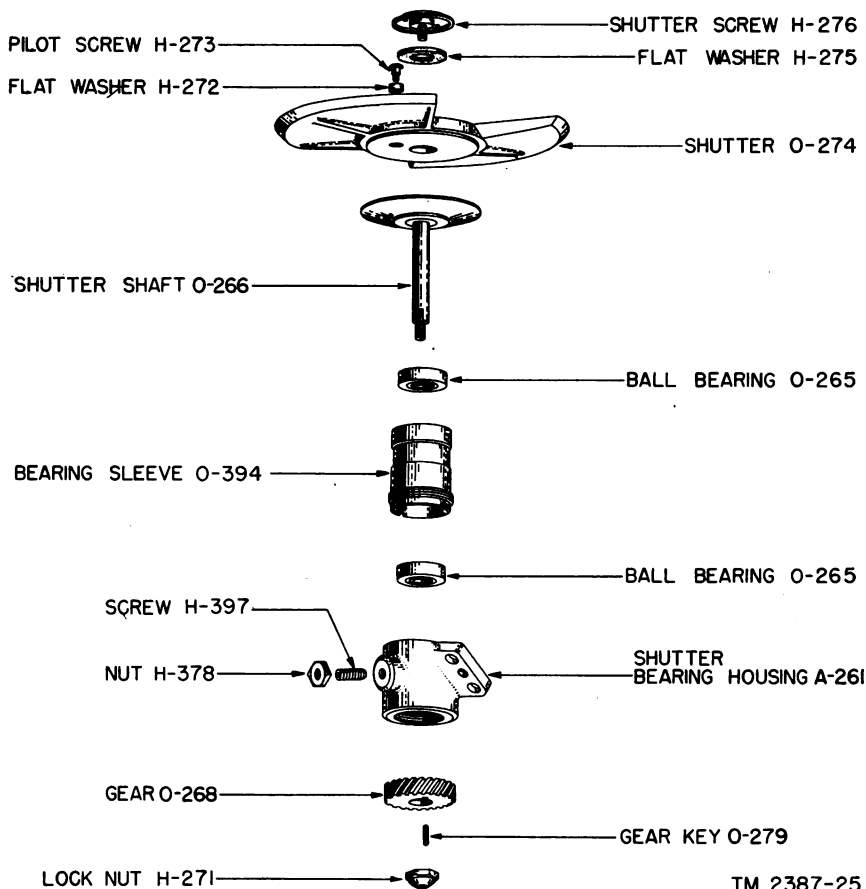

Figure 26. Shutter and shutter bearing housing assembly, exploded view.
a. Use a spanner wrench, and remove screw H276 (fig. 26) which holds shutter O-274 to shutter shaft O-266; carefully lift off the shutter screw and flat washer H275. Remove screw H273 and washer H272 and carefully lift off shutter O-274. Carefully check washer H272 for fit in the shutter and felt washer H275 to be sure it is dry and does not have a permanent set. Remove nut H271 from shutter shaft O-266 and use a gear puller to remove gear O-268 and key O-279. Remove shutter shaft O-266 from the opposite end of the shutter bearing housing. Remove nut H378 and screw H397 which lock bearing sleeve O-394 in place in the housing. Unscrew bearing sleeve O-394 to remove it from the housing. Use a bearing puller to remove ball bearings O-265. Be careful when handling shutter O-274 and when removing bearings O-265. Do not touch the surface of the shutter with the fingers, and carefully protect the surfaces at all times. Do not disassemble any further than is necessary.